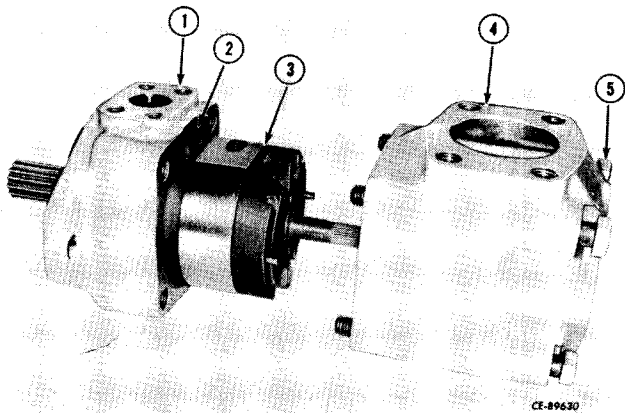

Figure 11-9
Remove the cap screws (5, Fig. 11-9). Remove the housing (4), cartridge (3) and "O"-ring (2) and back-up ring from the body (1).